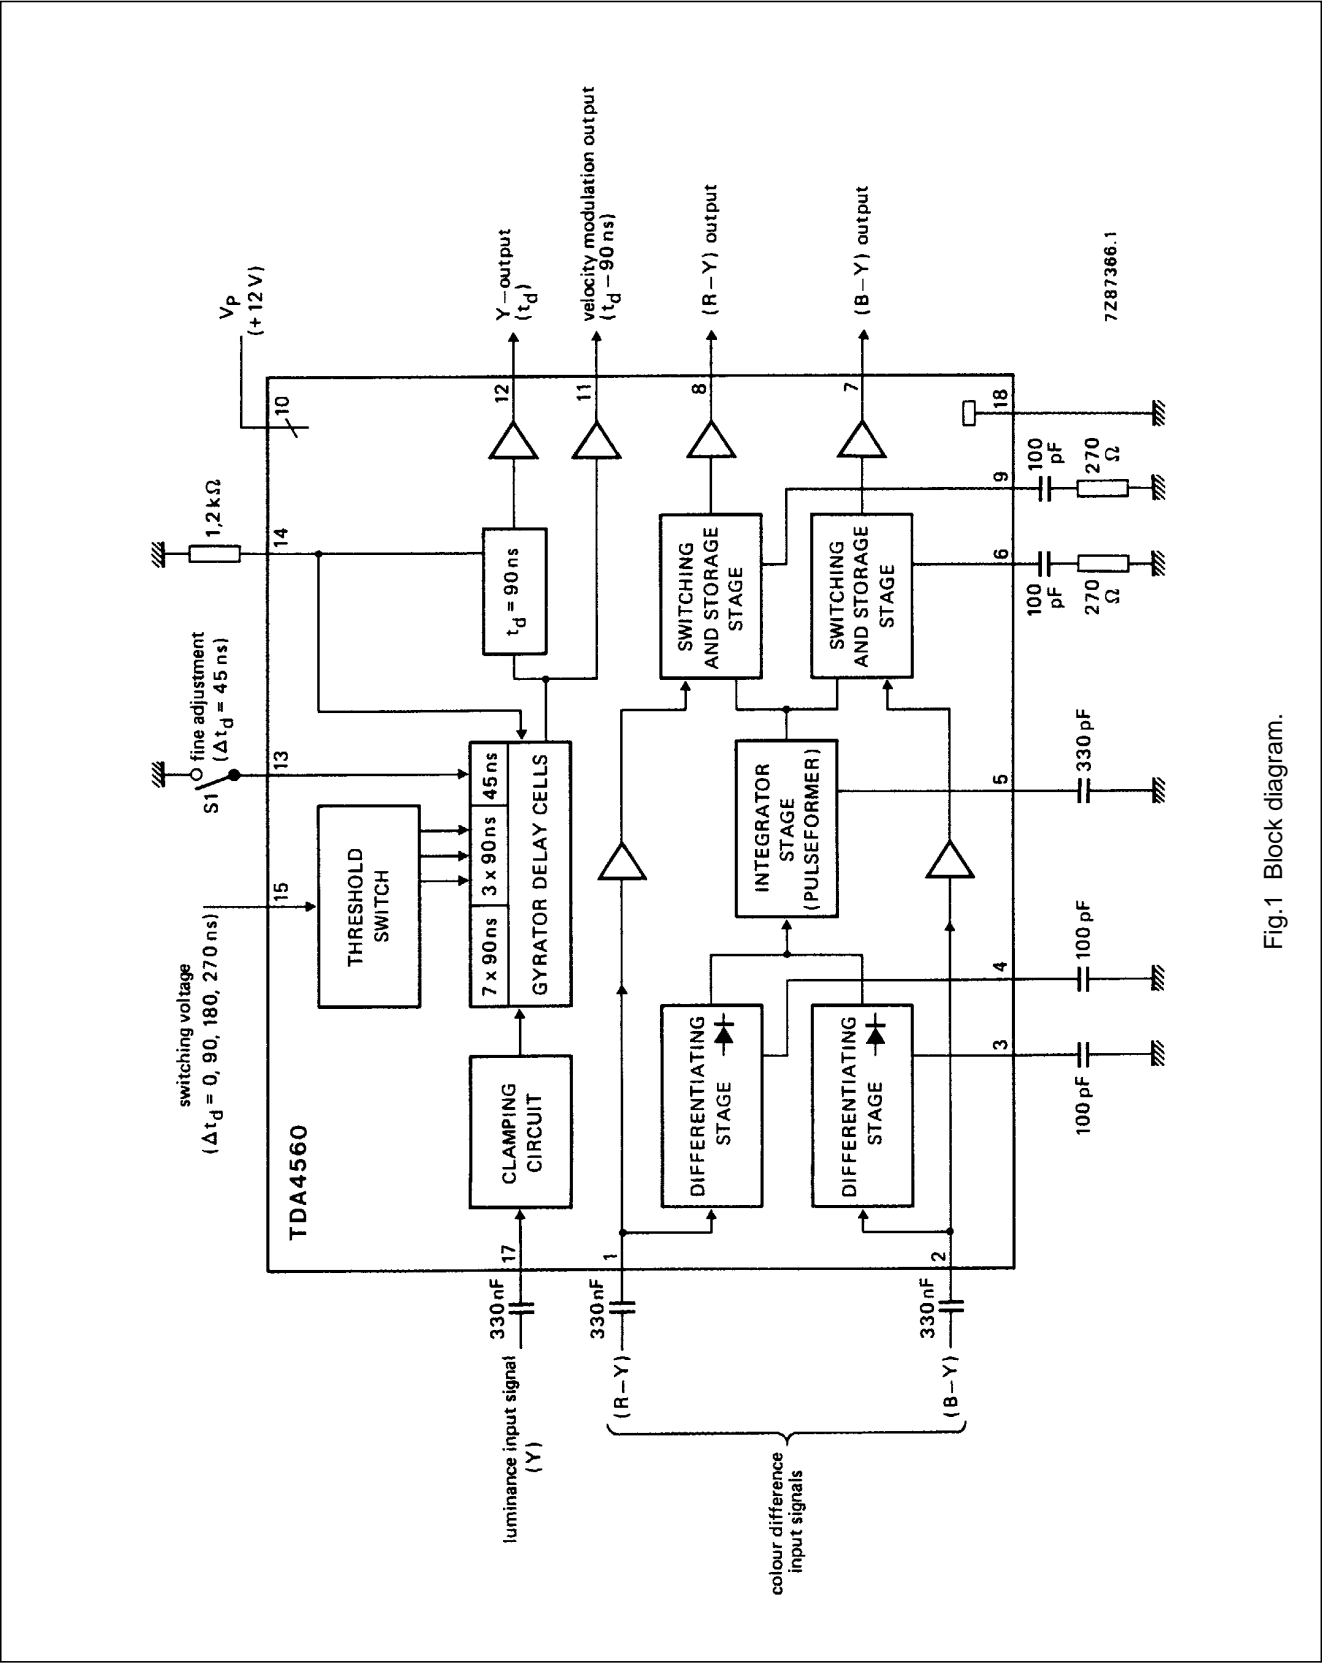

Fig.1 Block diagram.
The IC consists of two colour difference channels (B-Y) and (R-Y) and a luminance signal path (Y) as shown in Fig.1.